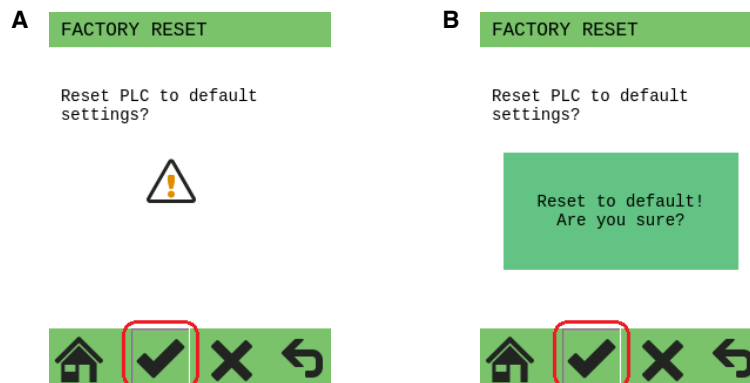

Figure 7-1 “FACTORY RESET” menu
- Start the reset process by tapping the ✓ symbol (A in Figure 7-1).
- Acknowledge the “Reset to default! Are you sure?” dialog by tapping on the ✓ symbol (B in Figure 7-1) again.